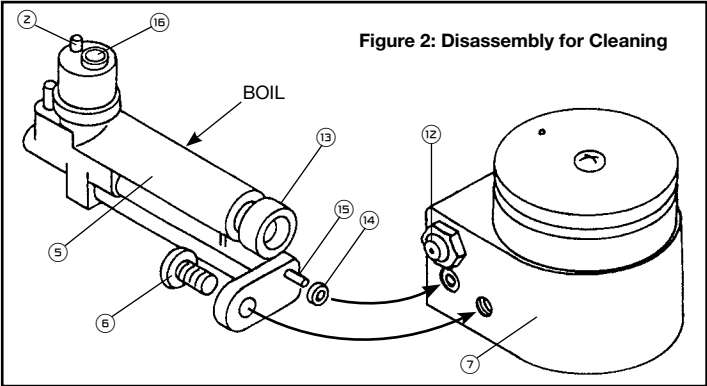

Figure 2: Disassembly for Cleaning
See Figure 2 on previous page. An unlit Pilot Light ② can allow gas to accumulate in the room when the unit is left with the gas supply turned on. If the Pilot Light fails to stay lit, adjust it to a larger flame, or eliminate the draft blowing it out.